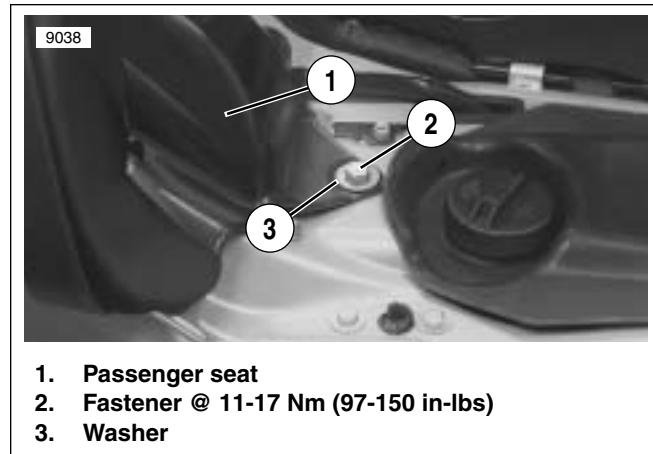

Figure 8-50. Passenger Seat Attachment
4. See Figure 8-50. Remove fastener and washer. Slide passenger seat forward slightly to detach it from the mounting tab on the rear of the fender. Then slide seat back and out from underneath seat strap. Remove passenger seat from motorcycle.
3. See Figure 8-50. Slide passenger seat under seat strap and engage mounting tab on the fender into slot in bottom rear of seat. Make sure TSSM wiring harness is not pinched under seat frame.